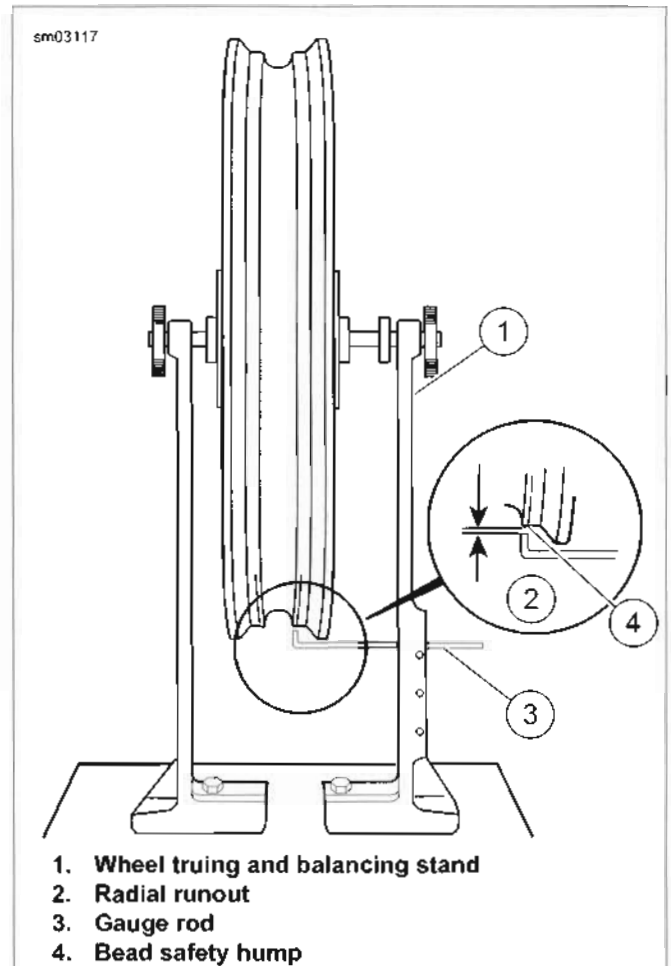

Figure 2-21. Checking Radial Runout
1. See Figure 2-21. With the wheel mounted in WHEEL TRUING AND BALANCING STAND (Part No. HD-99500-80), adjust the truing stand gauge (3) near to the tire bead safety hump (4). If using a dial indicator, place the tip on the safety bead hump.